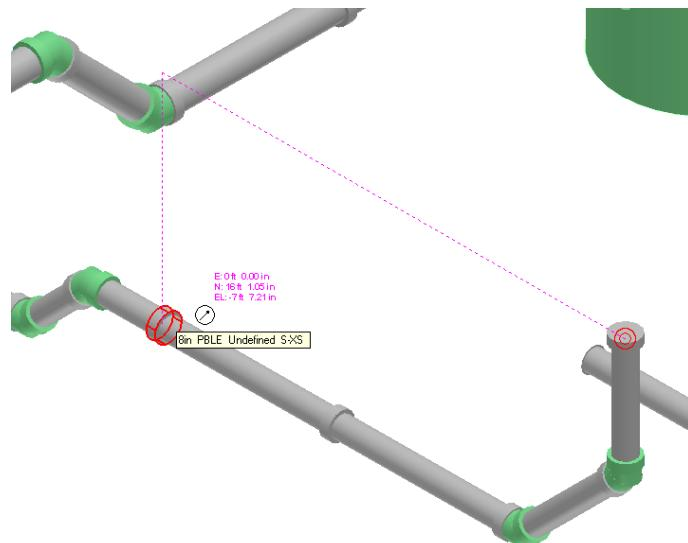

Figure 4.43: Defining the First Point on the Plane
79. The system prompts you to specify the first point of the plane. Select a port on the lateral pipeline to define the first point of the plane, as shown in Figure 4.43.